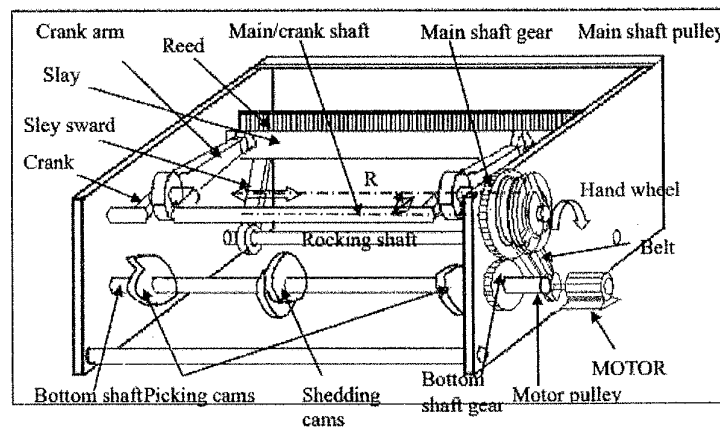

Figure 01.
- (a) Figure 01. shows a loom driving mechanism. Explain the function of the Main Crank Shaft, Rocking Shaft, and Bottom Shaft in the loom driving mechanism. How do these shafts coordinate to perform the primary motions of weaving: shedding, picking, and beat-up? (05 marks)